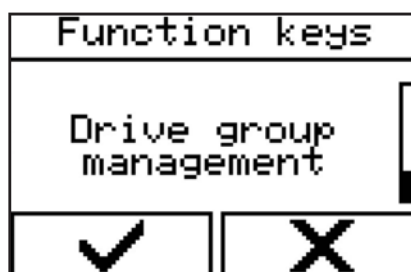

Figure 48 - Selecting a menu
1. Select the menu via 'Hand switch' → 'Premium functions' → 'Settings of function keys' → 'Drive group management' (Figure 48).